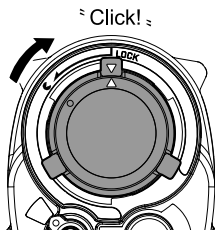

Fig.4
- 7 Turn the [▽] mark clockwise to the [△] position (Fig.4)